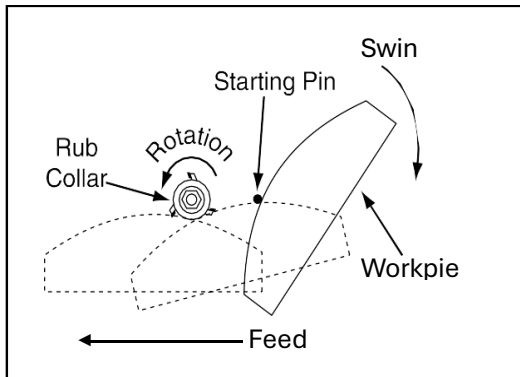

Figure 24: Free-hand Routing with the Starting Pin.
- Always use a **starting pin or block** to anchor the workpiece at the beginning of the cut (see Figures 24).